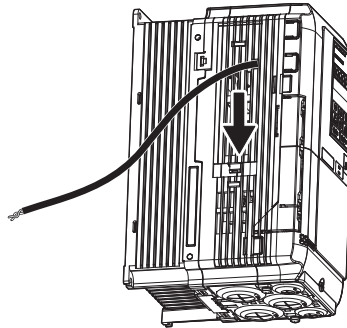

Figure 4.26 Reattaching the Connector Cover (2)
4. Slide the connector cover back into place as shown in Figure 4.26.